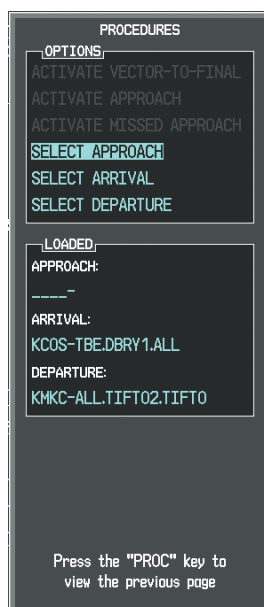

Figure 5-130 Procedures Window
b) 'SELECT APPROACH' should be highlighted as shown in Figure 5-130.